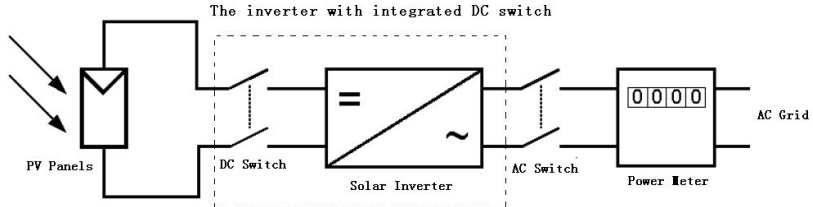

Fig.6 The PV system diagram
- C. DC Switch and AC Switch: "DC switch" is between PV Panels and solar inverter while "AC Switch" is between AC Grid (Utility) and solar Inverter. They are simplified in this diagram. In fact, they may consist of electrical breaker, fuse and connecting terminals. To comply with local safety standards and codes, the connection system should be designed and implemented by a qualified technician. JFY-tech also provides the solar inverter with an integrated DC switch demonstrated in dashed border in Fig.6. -S suffix indicates the inverter is integrated a DC switch in PV input side.